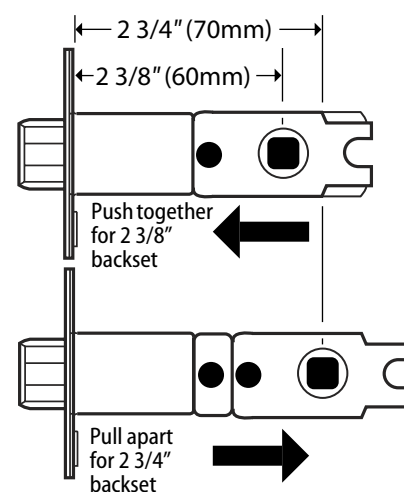

Figure 2 Adjusting the latch to the proper backset
- 1 Expand or collapse the latch to match the backset of the door. See Figure 2.